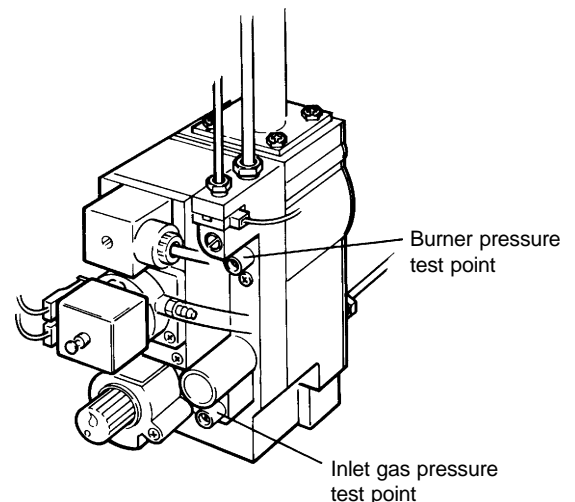

Fig. 17
2. Loosen the gas inlet pressure test point screw on the gas valve (see Fig. 17). Ensure the gas supply is on and open the boiler service cock to purge in accordance with BS 6891.
5.5 CHECK THE BURNER PRESSURES - Fig. 17
8.1 GENERAL ACCESS - Fig. 17